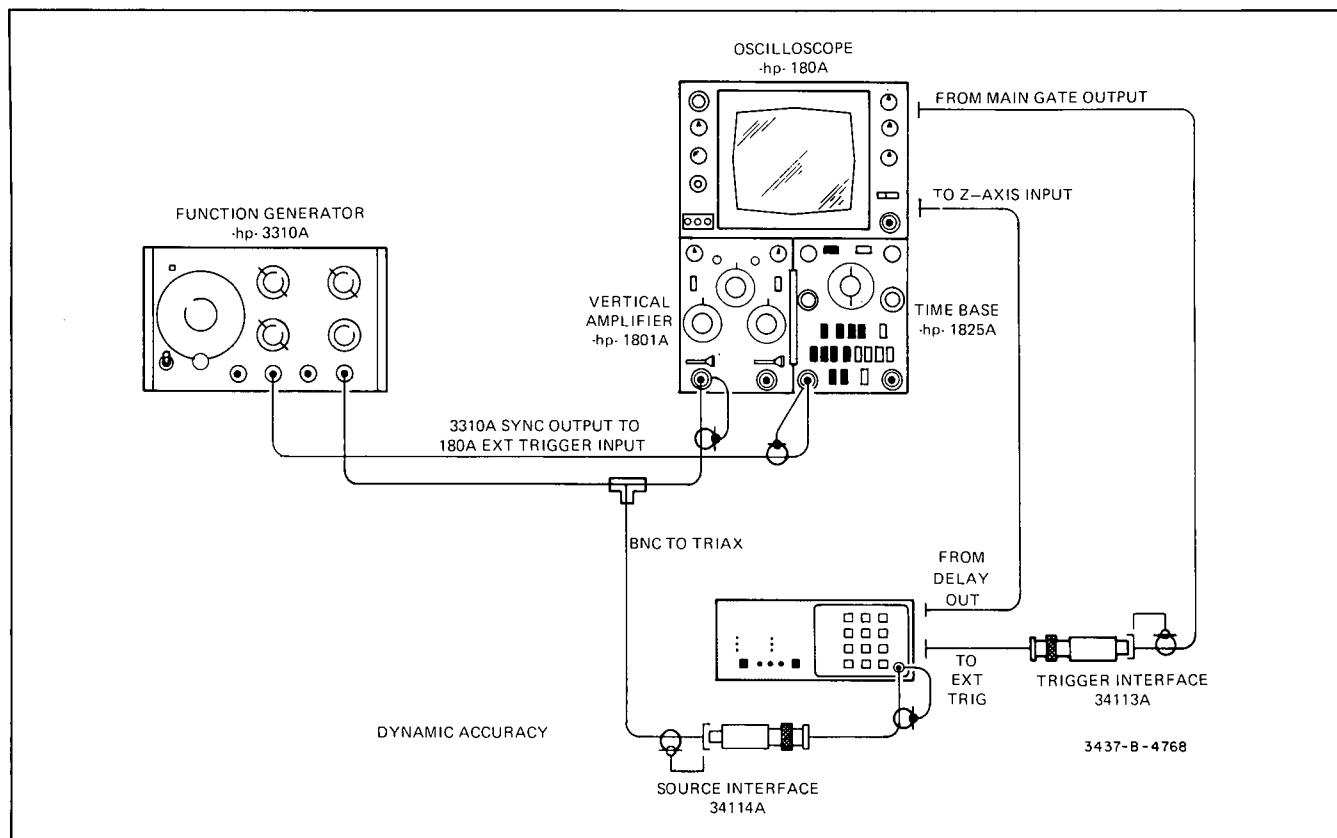

Figure 5-2. Dynamic Accuracy Test Set Up.
- Connect the equipment as illustrated in Figure 5-2.